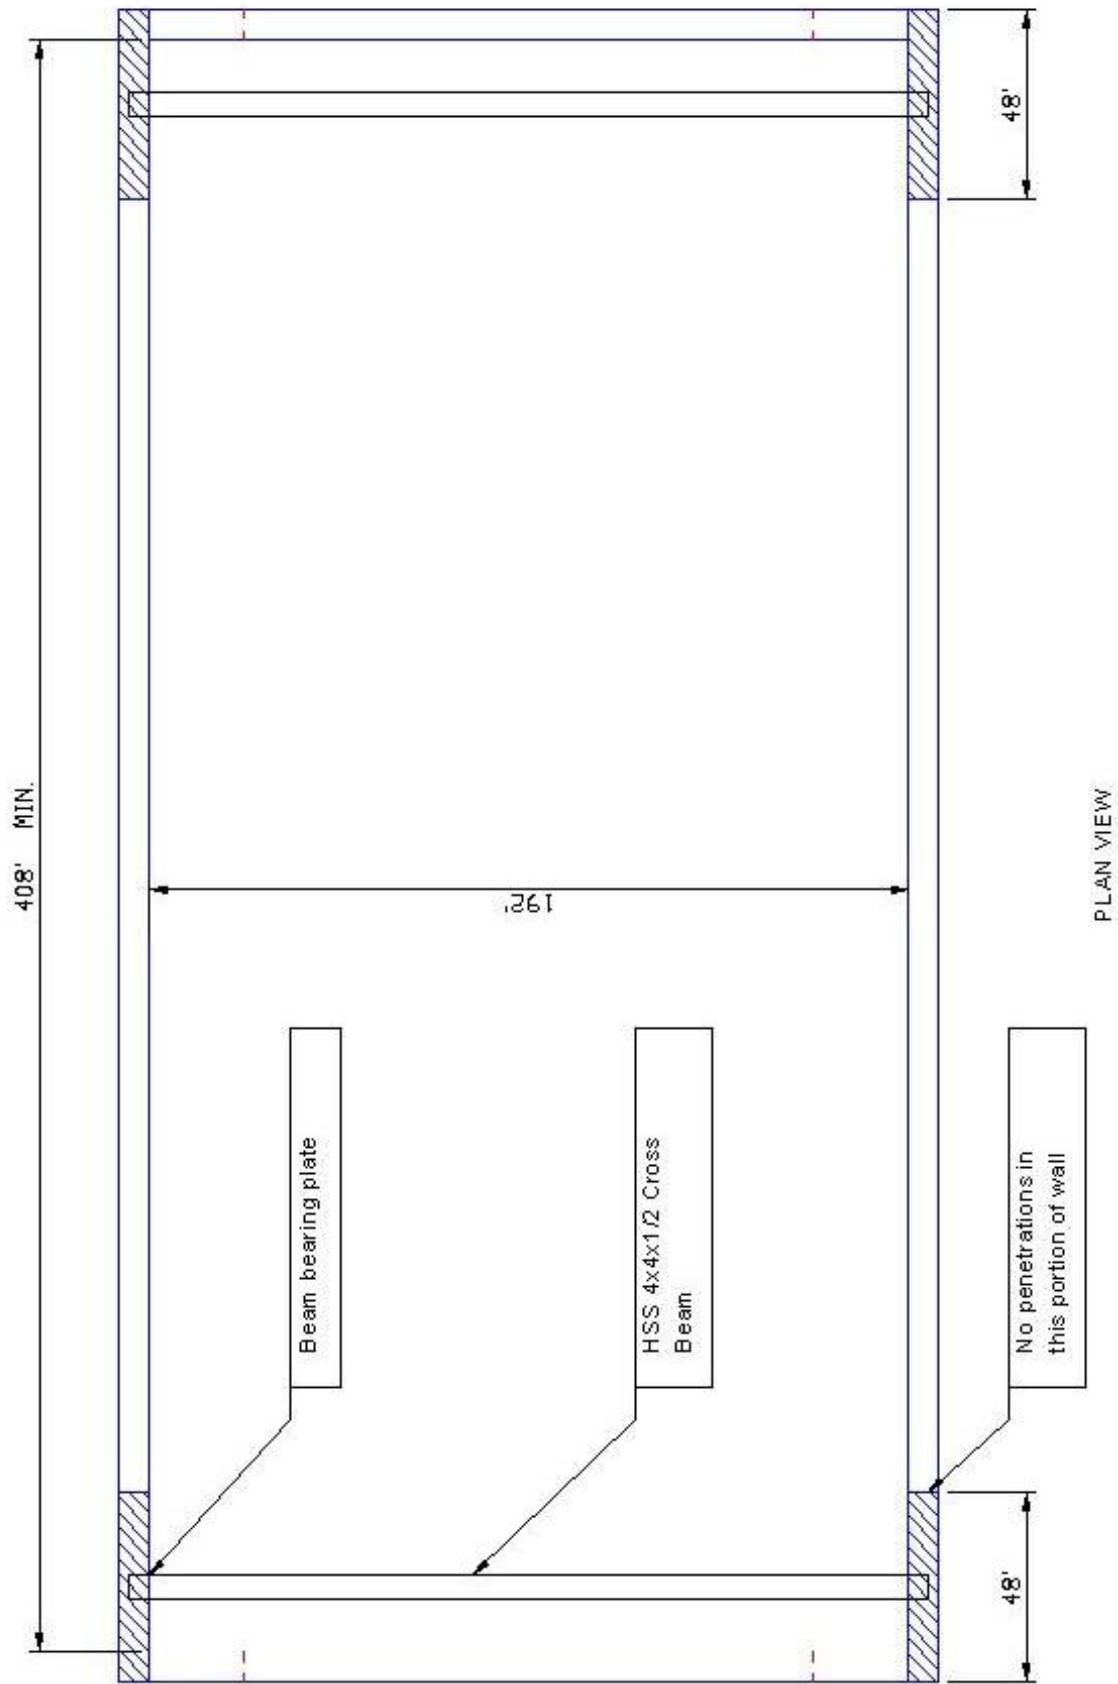

Figure 25-Example of Cross Beam Integration, Plan View.
- Cross beams and mounting are site supplied. Please refer to the example shown in Figures 25 through 27 for a Typical Cross Beam integration into a building with masonry walls. Figures 25 through 27 represent one potential method of integrating the cross beams into the wash bay wall. Each site will vary; it is the responsibility of the site to consult a qualified structural engineer for beam design recommendations specific to the wash building.
For sites **where one end of rail must be cut** to fit in the wash bay, Figure 25 shows the proper location for cross beams.